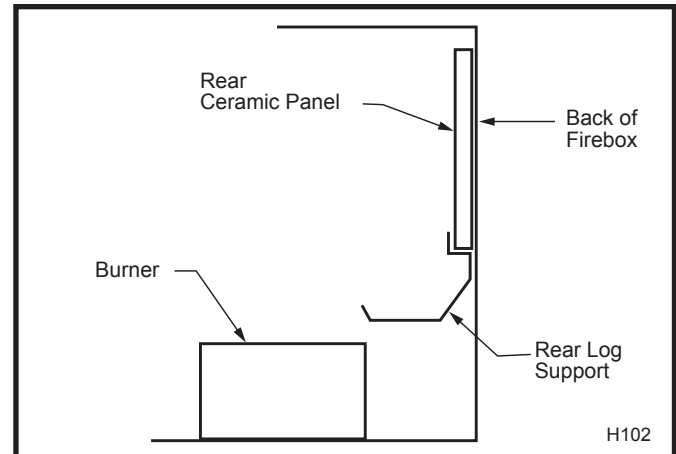

Fig. 93 Rear ceramic panel placement.
3. Place rear ceramic panel in back of unit. (Fig. 93)